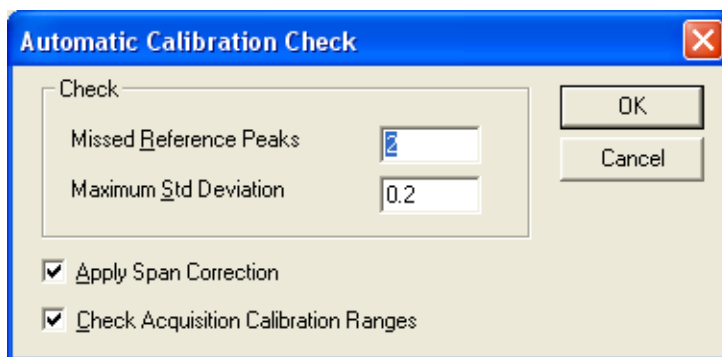

Figure 6-4 Automatic Calibration Check Dialog Box
Automatic calibration check parameters define limits that the calibration must attain before the instrument is successfully calibrated. These parameters are set in the Automatic Calibration Check dialog box (Figure 6-4), which is opened by selecting Edit > AutoCal Check Parameters in the Calibration Options window. Table 6-3 gives details of the Automatic Calibration Check dialog box parameters.
The calibration fails if the number of consecutive peaks not found exceeds the value in the Missed Reference Peaks parameter, which you specify in the Automatic Calibration Check dialog box (see Figure 6-4). Peaks may be missed for the following reasons:
- The Maximum Std Deviation, specified in the Automatic Calibration Check dialog box (see Figure 6-4), has been exceeded.